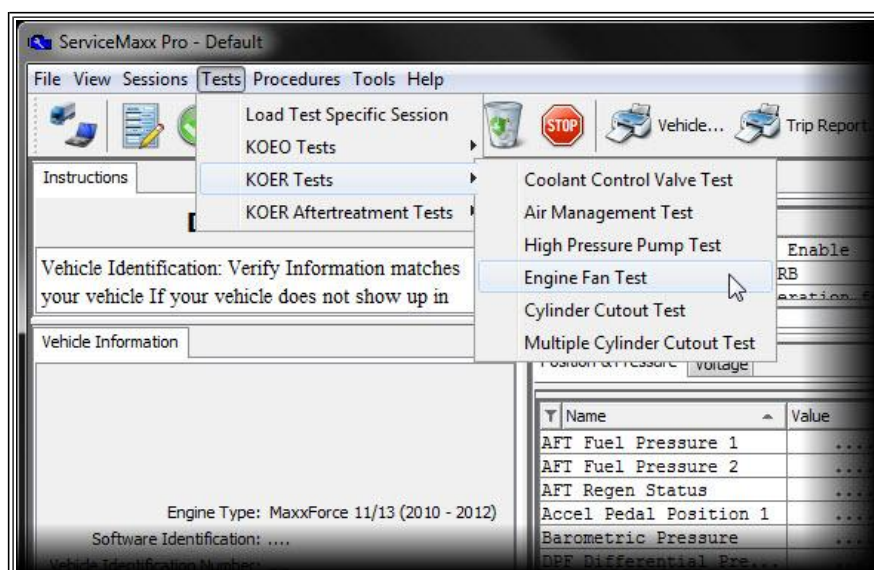

Figure 6
3. Connect with ServiceMaxx and perform "Engine Fan Test" (*Figure 6*).